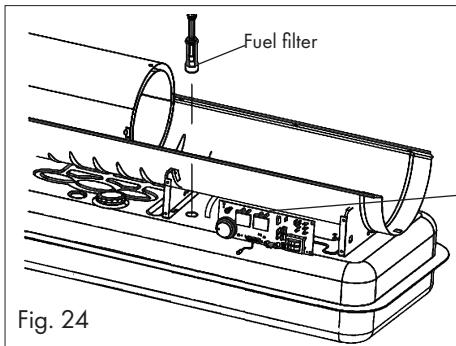
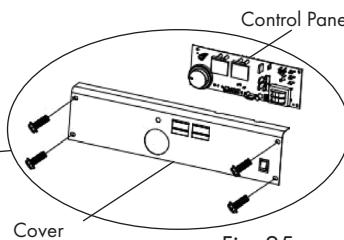

Fig. 24
Fig. 25
- Remove the cover of the control panel, see Fig. 25
- Remove the fuel hose from the fuel filter (H).
- Pull the fuel filter (H) out of the tank, See Fig. 24